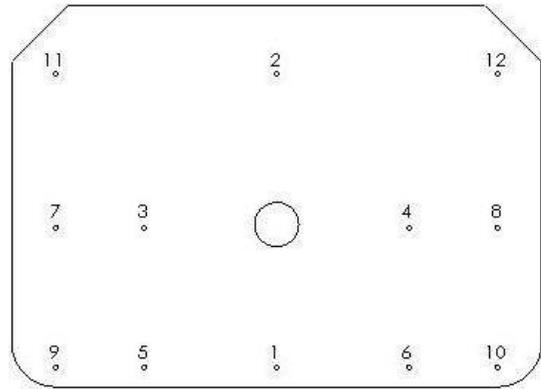

Figure 2
4. Mark and install two (2) screws at a time, always working from holes closest to king pin outward. Refer to Figure 2 for pattern.
8. Follow same procedures for the rest of the holes as in steps 6 and 7. Be sure to follow pattern in Figure 2. NOTE: Number of holes will vary with the size of the TRAILER SLICK PLATE. Using screws included with your TRAILER SLICK PLATE.